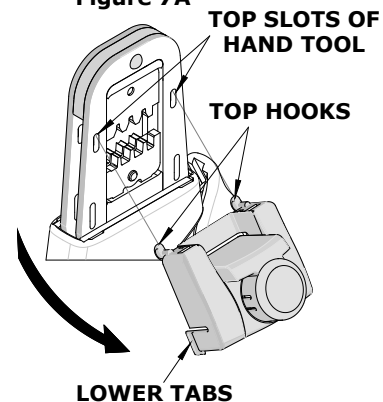

Figure 7B
- Press the center of the locator down as far as it will go, as shown in Figure 7B.
- Holding onto the lower part of the locator with your thumb and index finger, insert the locator's top hooks (2) into the hand tool's top slots.